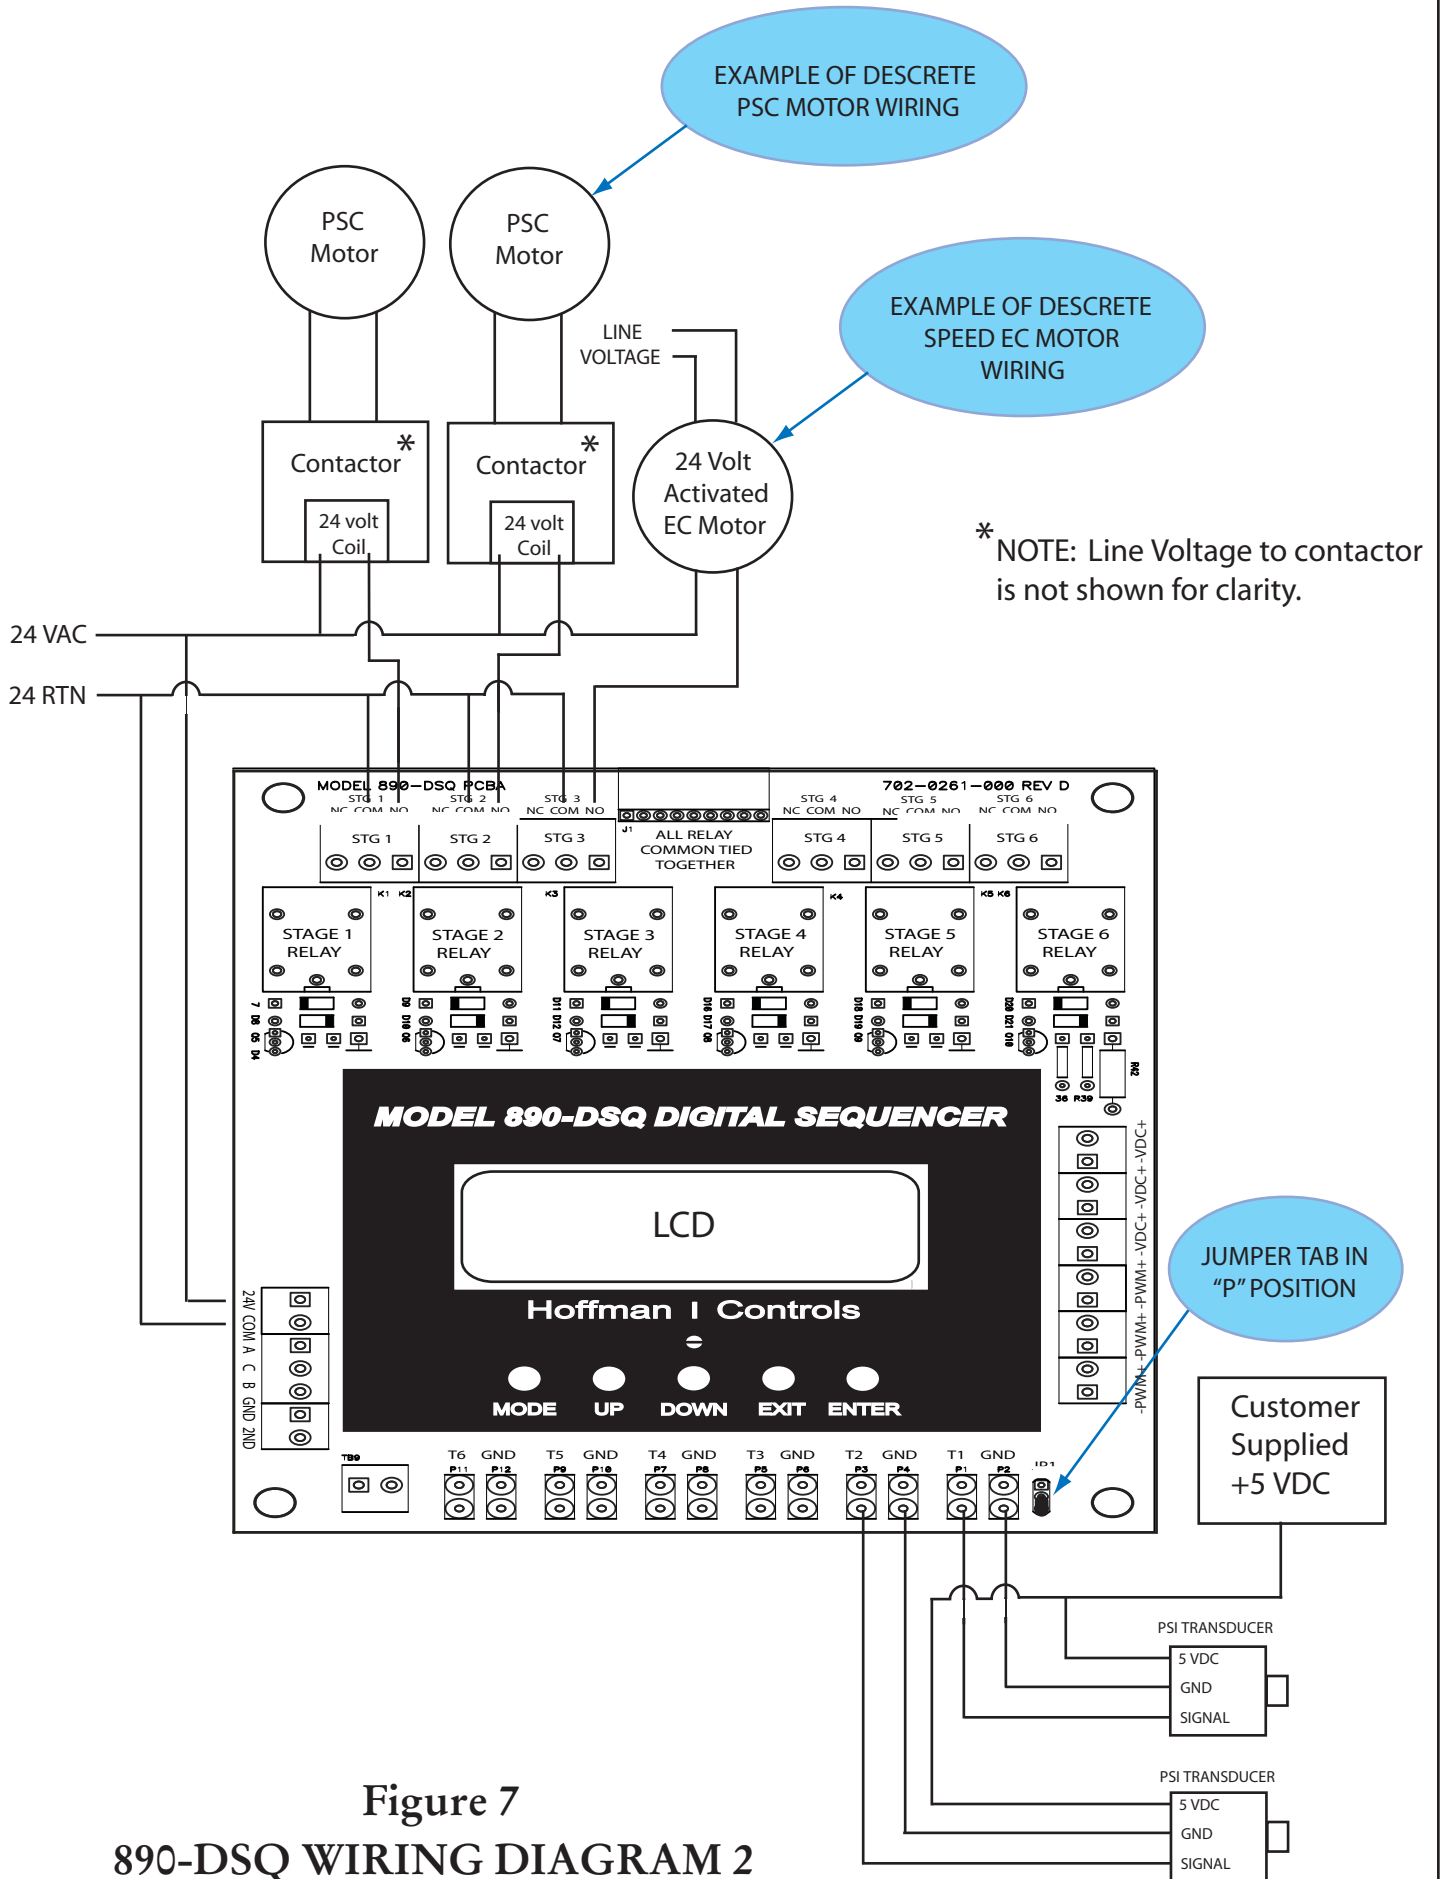

Figure 7
- 5) Refer to **Figure 7, 890-DSQ Wiring Diagram 2**, (on page 14) for applications using staged relay outputs with pressure transducer inputs.